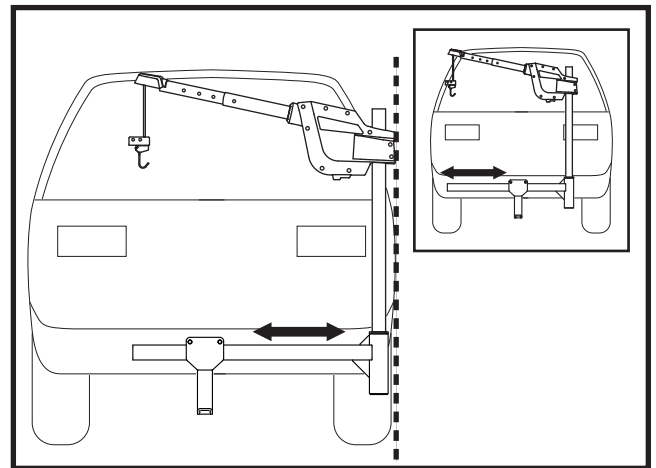

Figure 14. Support Arm Adjustment
7. Adjust the support arm so that the upper post and motor housing are aligned with the side of the vehicle's trunk or hatch. **See figure 14.**